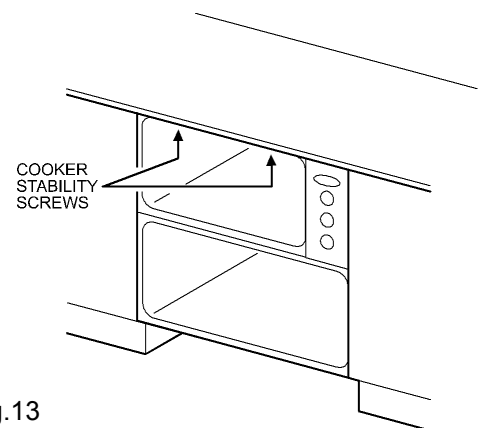

Fig.13
- When the appliance is fully housed, screw the stability screws (supplied with the appliance) into the underside of the work surface in the positions indicated (see Fig. 13), taking care not to distort the trim. It is advisable to turn each screw alternatively to avoid damaging the trim.